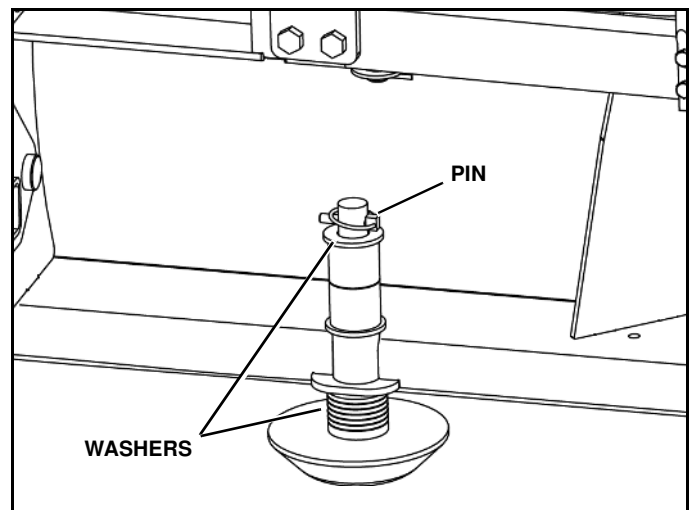

Figure 1-37
4. Adjust shoe assemblies by removing shoe mounting lynch pin and adding or subtracting washers on the top or bottom of the shoe-mounting bracket. (See Figure 1-37)